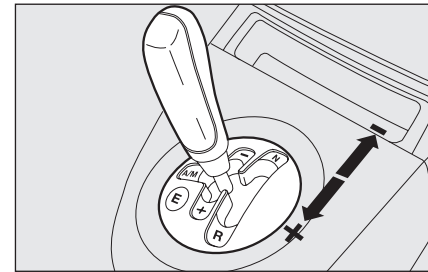

fig. 1
- When driving, push the gear lever towards **+** **fig. 1** to engage a higher gear or towards **-** **fig. 1** to engage a lower gear.